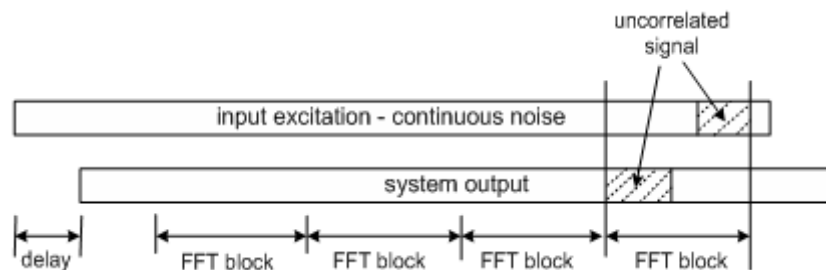

Figure 3.3 Illustration of the uncorrelated estimation in a classical Fourier analyzer
- In a system with a large delay between the input and the output (see Fig. 3.3), i.e. when measuring loudspeaker in room response, or response of communication systems with high delay, there will be low correlation between measured input and output signals. In the ARTA it is possible to delay the acquisition of the input channel, so this kind of error can be eliminated. But, if we measure the frequency response in the highly reverberant environment, it is not possible to compensate for all possible delays.